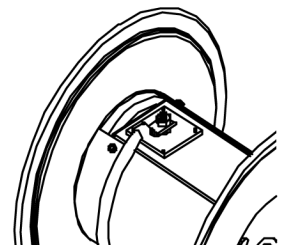

Fig 2.0
- 1.) Place connector over stud (fig 2.0) and install brass nut (supplied).